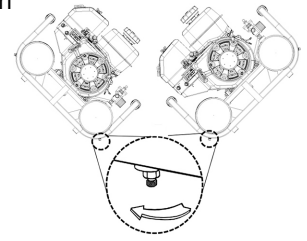

Figure 3.
- d. Tilt the compressor on its side to position the drain valve on the bottom. Hold in place until the moisture has drained out (Fig. 3).